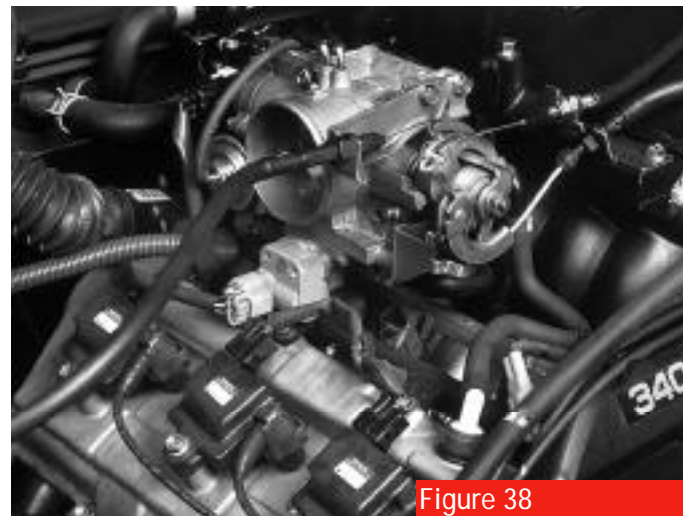

Figure 38
14. Using your diagrams, and those in the back of this manual, double check the routing of vacuum hoses, cables and brackets and correct any problems (figure 38).
18. Apply a TRD belt routing sticker and the Executive Order (EO) label to the underside of the hood. The EO will alert state smog inspectors that the TRD supercharger has been certified emissions legal in all 50 states.